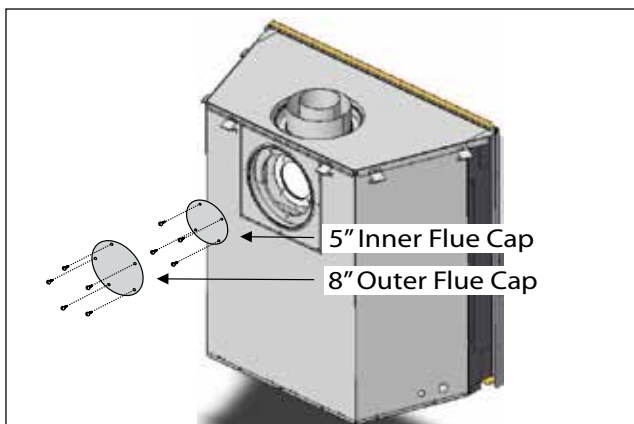

Figure 7a. Flue cap installation for Top Vented fireplace.
1. Install the 5" inner flue cap on the rear flue outlet and secure the cap in place with five screws, as shown in **figure 7a**.